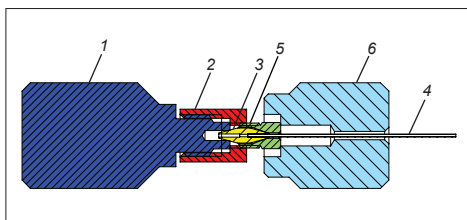
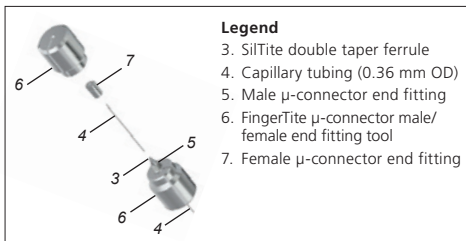
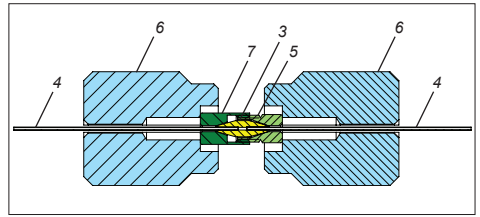
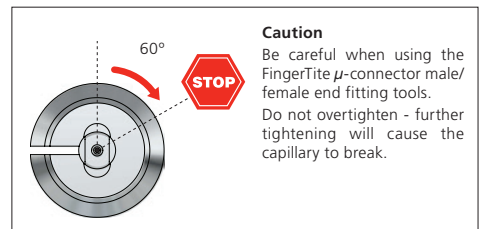

Figure 2. Section view of swaging the male  $\mu$ -connector end fitting onto the double taper ferrule.
Figure 3. Exploded view of installing the female  $\mu$ -connector end fitting.
Figure 4. Section view of swaging the female  $\mu$ -connector end fitting onto the double taper ferrule.
Figure 7. Do not overtighten  $\mu$ -connector end fittings.
Screw the nut onto the tool – the internal thread of the connection nut is designed to allow the male  $\mu$ -connector end fitting to swage the double taper ferrule (see Fig. 2).
3. To swage the male  $\mu$ -connector end fitting (5) onto the double taper ferrule; first slide the male  $\mu$ -connector end fitting onto the capillary tubing (4) – the thread of the end fitting should be facing towards the end of the capillary tubing that will be connected to the  $\mu$ -Union (see Fig. 2).
Locate a double taper ferrule (3) and place it into the connection nut (2) – it simply sits in the connection nut (see Fig. 2).
4. Insert the capillary into the double taper ferrule and screw the male  $\mu$ -connector end fitting (5) into position making sure the capillary seats inside the ferrule – there is a stop designed within the ferrule. Gently tighten the male  $\mu$ -connector end fitting with your fingers until you feel resistance, while ensuring the capillary end is against the stop inside the ferrule.
Locate one of the FingerTite  $\mu$ -connector male/female end fitting tools (6) and slide it over the capillary via the slot cut into the tool, onto the male  $\mu$ -connector end fitting (5). To swage the ferrule, gradually tighten the male  $\mu$ -connector end fitting until the ferrule just begins to hold the capillary, then tighten a further 60° (see Fig. 2 and Fig. 7).
5. Remove the ferrule/nut adaptor tool (1) with connection nut (2), by unthreading it from the male  $\mu$ -connector end fitting (5). Replace the ferrule/nut adaptor tool and connection nut into the kit.
Referring to Figure 3, locate the female  $\mu$ -connector end fitting (7) and slide onto the second piece of capillary tubing (4) – the thread of the end fitting should be facing towards the end of the capillary tubing that will be connected to the  $\mu$ -Union (see Fig. 4).
6. Insert the capillary into the double taper ferrule and screw the female  $\mu$ -connector end fitting (7) into position making sure the capillary seats inside the ferrule – there is a stop designed within the ferrule. Gently tighten the female  $\mu$ -connector end fitting with your fingers until you feel resistance, while ensuring the capillary end is against the stop inside the ferrule.
Locate both of the FingerTite  $\mu$ -connector male/female end fitting tools (6) and slide them over the capillary via the slot cut into the tools, onto the end fittings (5 and 7). To swage the ferrule, gradually tighten the female  $\mu$ -connector end fitting (7) until the ferrule just begins to hold the capillary, then tighten a further 60° (see Fig. 4 and Fig. 7).